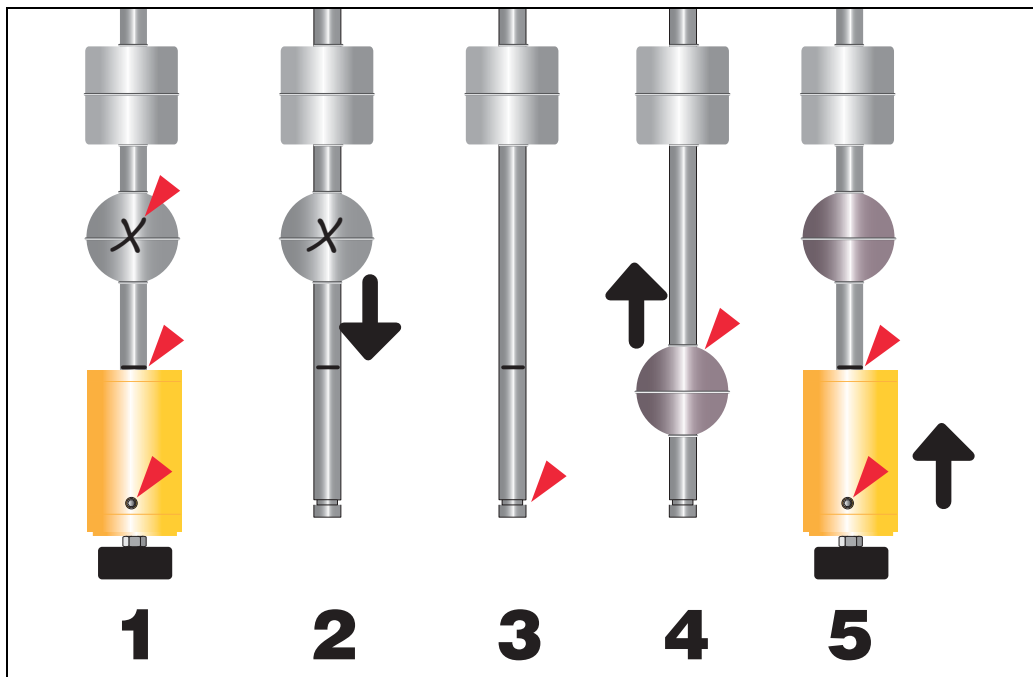

Figure 3. Installing The Bio-Diesel SS Water Float
2. If available, use a felt pen to mark a line on the probe shaft at the top of the weight and to mark an X on the existing ss water float (to differentiate it from the bio-diesel water float). Using a 3 mm Allen wrench, loosen the three screws around the base of the weight until the weight/magnet assembly can be slid off of the probe shaft (view 1 in Figure 3). Set the weight/magnet assembly aside being careful not to lose any of the three Allen screws from the weight or to damage the magnet.